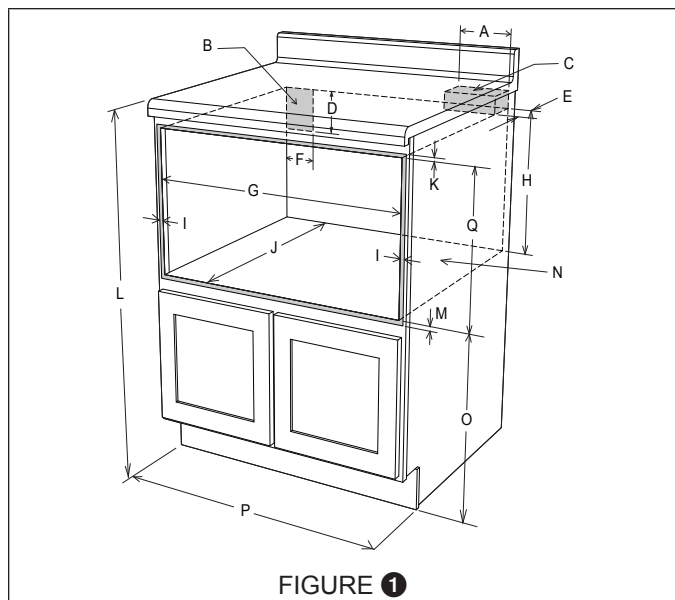

FIGURE 1
- Dimensions that are shown in figure 1 must be used. Given dimensions provide minimum clearance. Locate electrical outlet in the shaded area in the upper left-hand corner of the cutout. See figure 4.
Figures 1 and 2 contain many Drawer Microwave measurements for reference when planning the drawer's location.